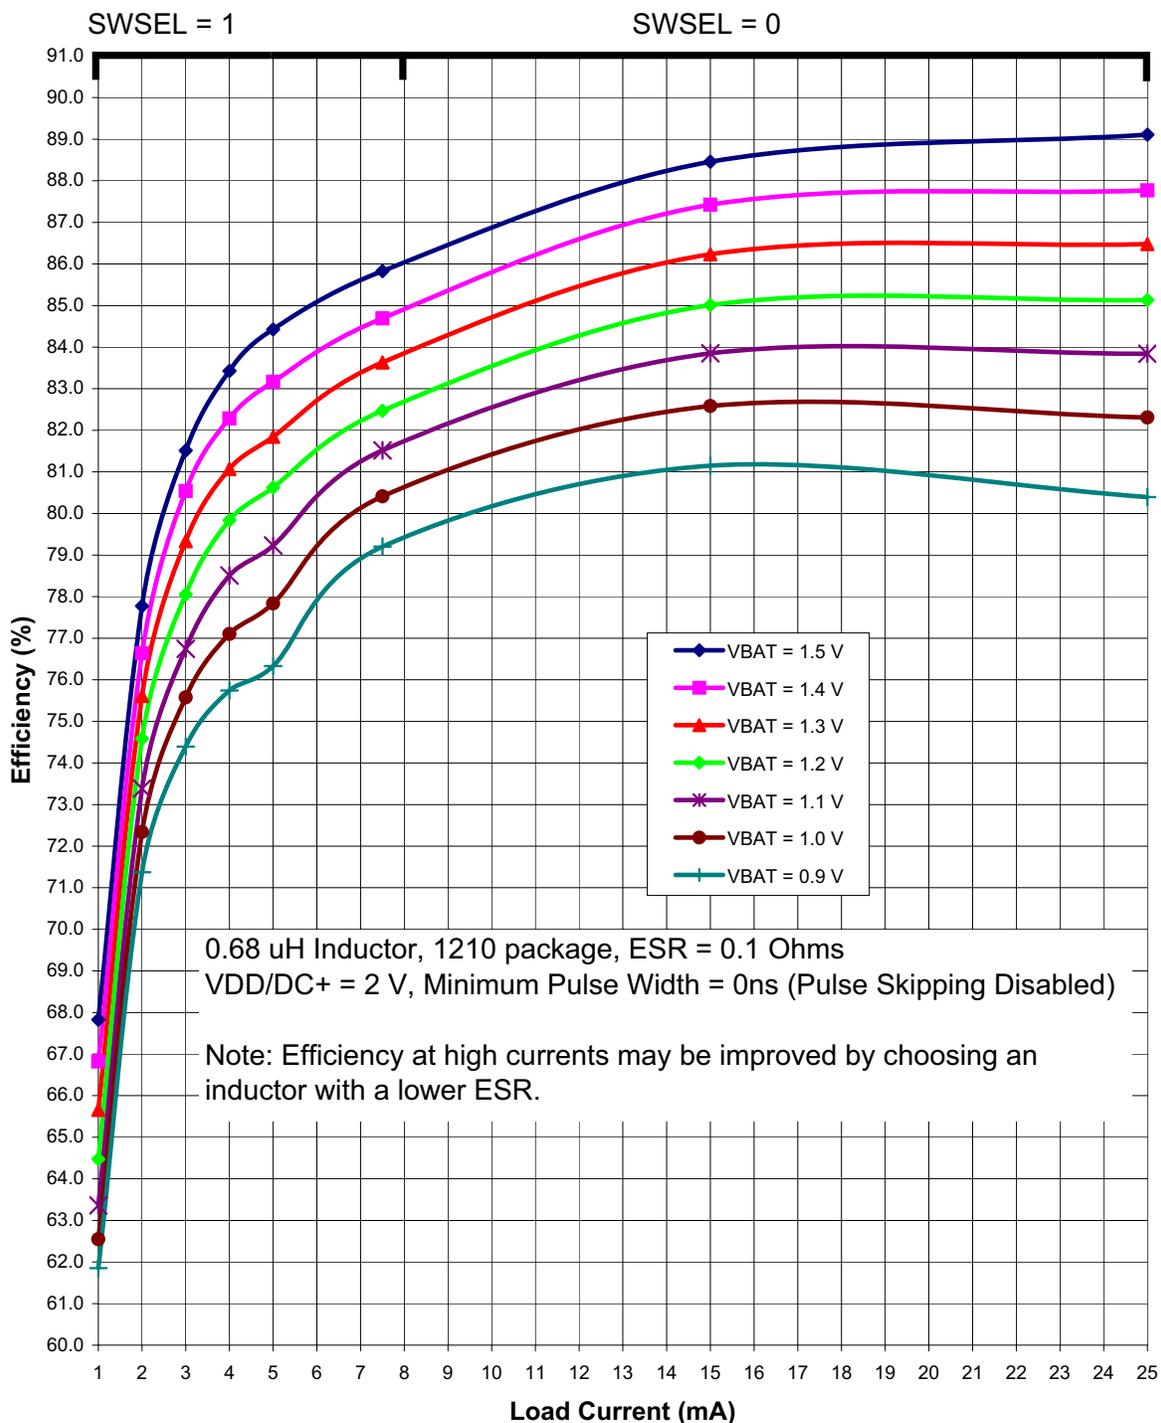
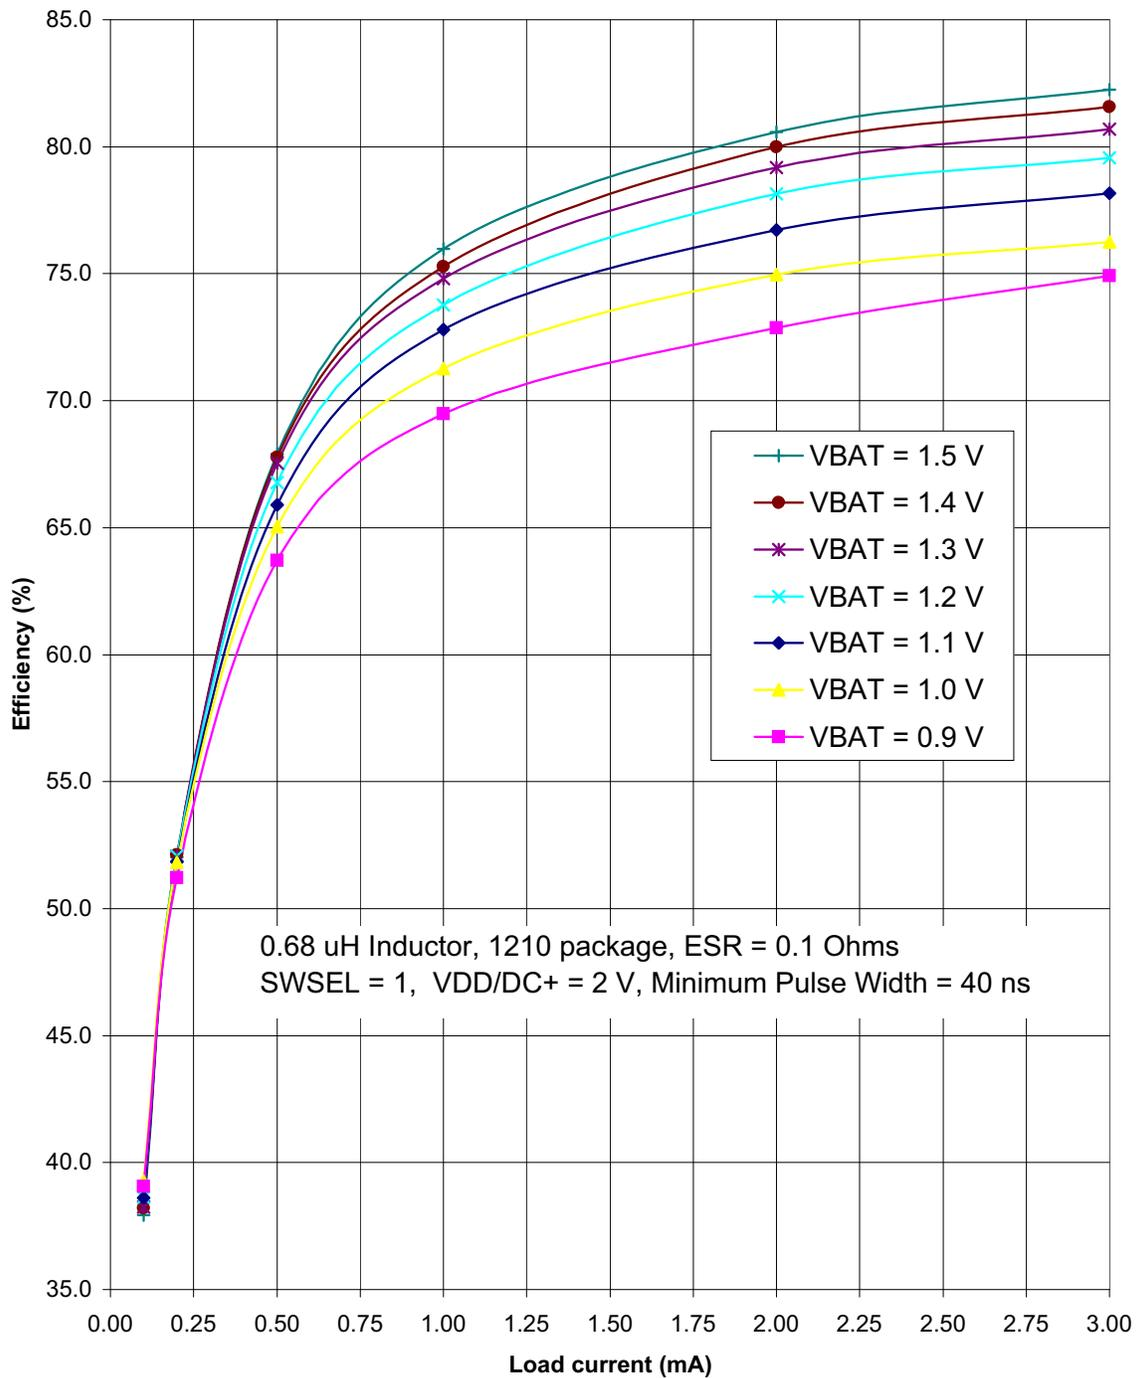

Figure 4.3. Typical DC-DC Converter Efficiency (High Current, VDD/DC+ = 2 V)
Figure 4.5. Typical DC-DC Converter Efficiency (Low Current, VDD/DC+ = 2 V)
The DC-DC Converter Efficiency can be estimated using Figure 4.3–Figure 4.5.
| <ol style="list-style-type: none"> Based on device characterization data; Not production tested. SYSClk must be at least 32 kHz to enable debugging. Digital Supply Current depends upon the particular code being executed. The values in this table are obtained with the CPU executing an "sjmp \$" loop, which is the compiled form of a while(1) loop in C. One iteration requires 3 CPU clock cycles, and the Flash memory is read on each cycle. The supply current will vary slightly based on the physical location of the sjmp instruction and the number of Flash address lines that toggle as a result. In the worst case, current can increase by up to 30% if the sjmp loop straddles a 64-byte Flash address boundary (e.g., 0x007F to 0x0080). Real-world code with larger loops and longer linear sequences will have few transitions across the 64-byte address boundaries. Includes oscillator and regulator supply current. IDD can be estimated for frequencies ≤14 MHz by simply multiplying the frequency of interest by the frequency sensitivity number for that range, then adding an offset of 90 μA. When using these numbers to estimate I_{DD} for >14 MHz, the estimate should be the current at 25 MHz minus the difference in current indicated by the frequency sensitivity number. For example: V_{DD} = 3.0 V; F = 20 MHz, I_{DD} = 4 mA – (25 MHz – 20 MHz) x 0.102 mA/MHz = 3.5 mA assuming the same oscillator setting. The supply current specifications in Table 4.2 are for two cell mode. The VBAT current in one-cell mode can be estimated using the following equation: $\text{VBAT Current (one-cell mode)} = \frac{\text{Supply Voltage} \times \text{Supply Current (two-cell mode)}}{\text{DC-DC Converter Efficiency} \times \text{VBAT Voltage}}$ <p>The VBAT Voltage is the voltage at the VBAT pin, typically 0.9 to 1.8 V. The Supply Current (two-cell mode) is the data sheet specification for supply current. The Supply Voltage is the voltage at the VDD/DC+ pin, typically 1.8 to 3.3 V (default = 1.9 V). The DC-DC Converter Efficiency can be estimated using Figure 4.3–Figure 4.5.</p> Idle IDD can be estimated by taking the current at 25 MHz minus the difference in current indicated by the frequency sensitivity number. For example: V_{DD} = 3.0 V; F = 5 MHz, Idle I_{DD} = 2.1 mA – (25 MHz – 5 MHz) x 0.079 mA/MHz = 0.52 mA. Internal LFO only available on 'F912 and 'F902 devices. Ability to disable VBAT supply monitor only available on 'F912 and 'F902 devices. | | | | | |